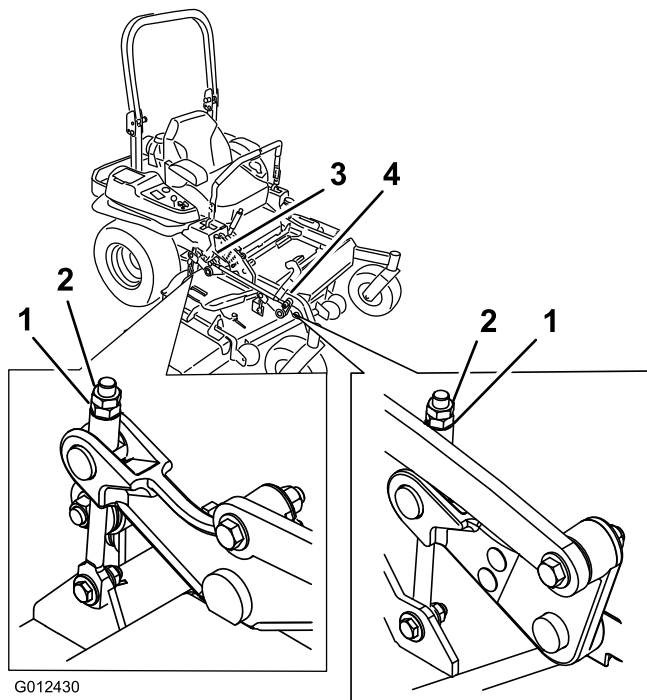

Figure 95
10. Fine-tune the adjustment nut on the front deck lift assembly by turning it (Figure 95).
16. Fine-tune the adjustment nut on the front deck lift assembly by turning it (Figure 95).